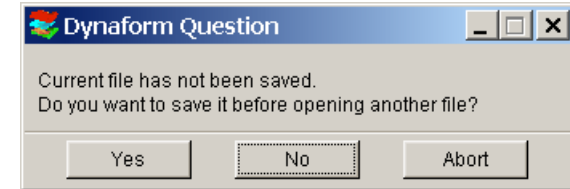

Figure 5.1
- b) Click **No** to deny saving the database (See Figure 5.1)